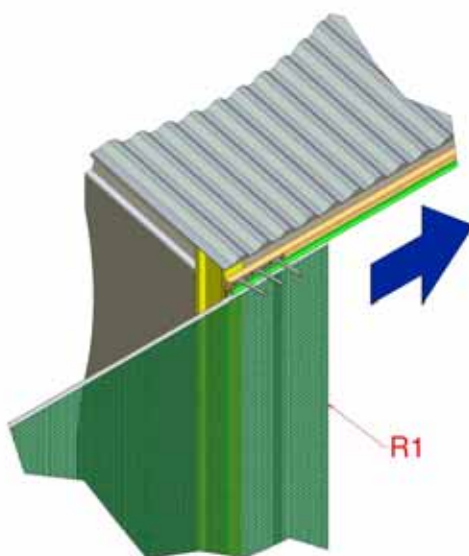

Figure 10, Inserting Curtain into Top Kador Profile
- 3.2 Take the upper kador edge of the Curtain (R1) and insert into the Kador Profile, gradually working the fabric down the length of the installation, Figure 10.